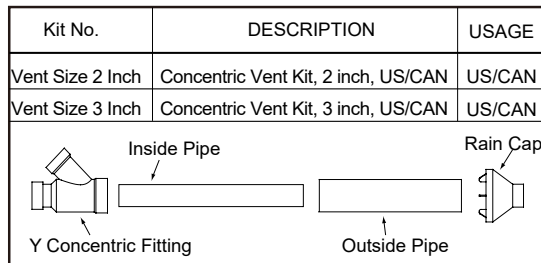

Fig.7-12 Kit Components
The concentric vent termination kit is shipped assembled but not cemented. Disassemble the kit and cement as shown in Fig.7-12.
- Partially assemble the concentric vent termination kit as shown in Fig.7-12 and 7-13. a. Cement Y concentric vent fitting to larger diameter kit pipe. See Fig.7-12. b. Cement rain cap to smaller diameter kit pipe. See Fig.7-12.
- Partially assemble the concentric vent termination kit as shown in Fig.7-12 and 7-13. a. Cement Y concentric vent fitting to larger diameter kit pipe. b. Cement rain cap to smaller diameter kit pipe.